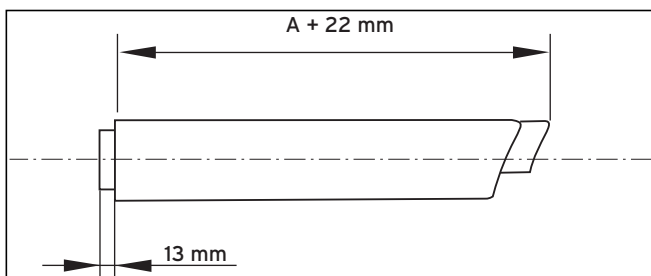

Fig. 2.9 Length of air pipe
- Cut the air duct and flue duct to the lengths shown in (fig. 2.9).